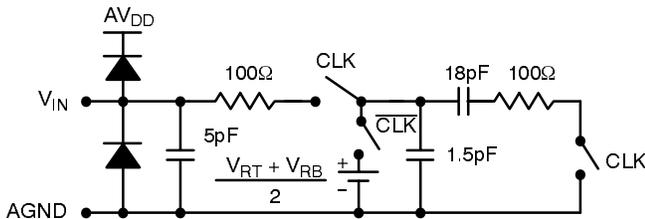

Figure 8. Equivalent Input Circuit
- 5 See VIN equivalent circuit (Figure 8.). Switched capacitor analog input requires driver with low output resistance.
This part has a switched capacitor type input circuit. This means that the input impedance changes with the phase of the input clock.  $V_{IN}$  is sampled at the high to low clock transition. Figure 8. shows an equivalent input circuit.